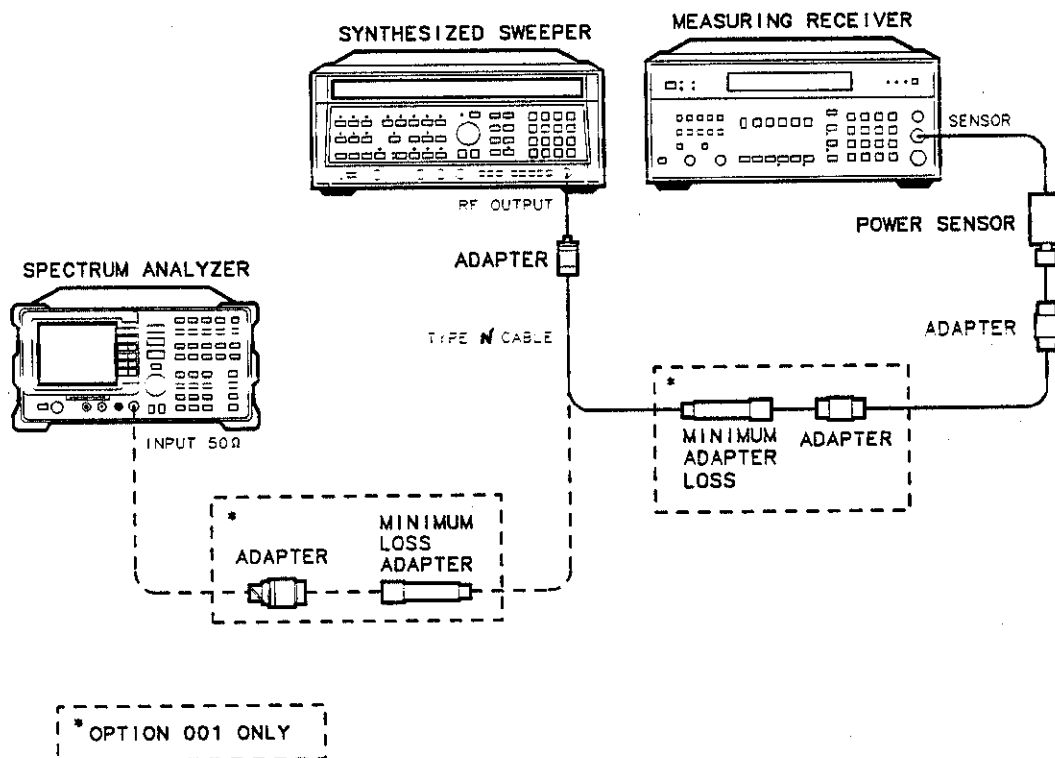

Figure 1-20. Other Input Related Spurious Responses Test Setup
3. Connect the equipment as shown in Figure 1-20. Connect the output of the synthesizer to the 100 kHz to 1800 MHz power sensor using adapters.
Option 001 only: Use the minimum loss adapter and 75 Ω adapter as shown in Figure 1-20.